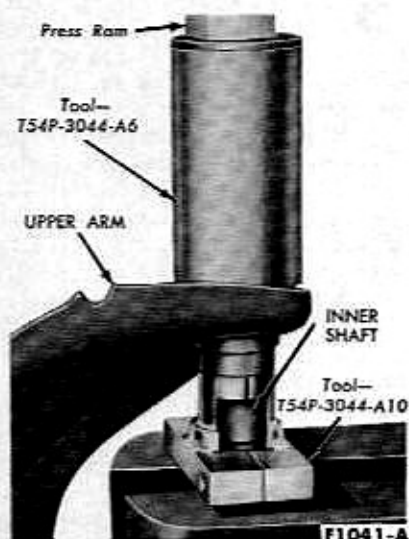

FIG. 3—Upper Arm Front Bushing Removal
2. Install the bushing remover tool at the front bushing, and press the bushing out of the arm (Fig. 3).